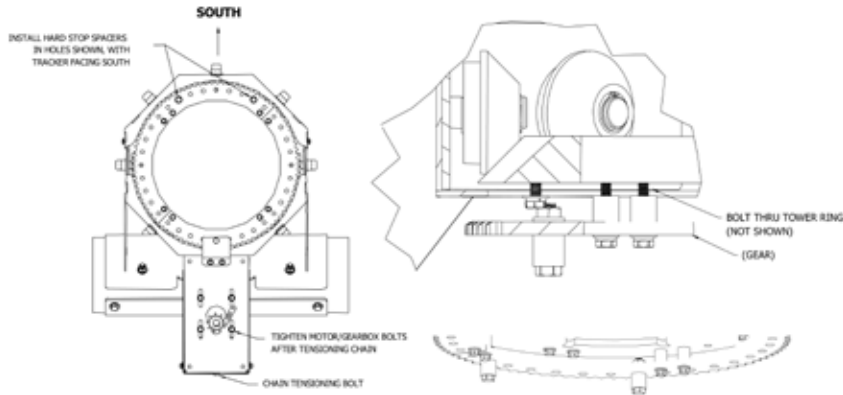

Figure 12
- Install two spacers, 3/8"-16 X 1-1/2" bolts, and hex flange lock nuts (from the hard stop hardware package) on the tower gear in the locations shown. See Figure 12.